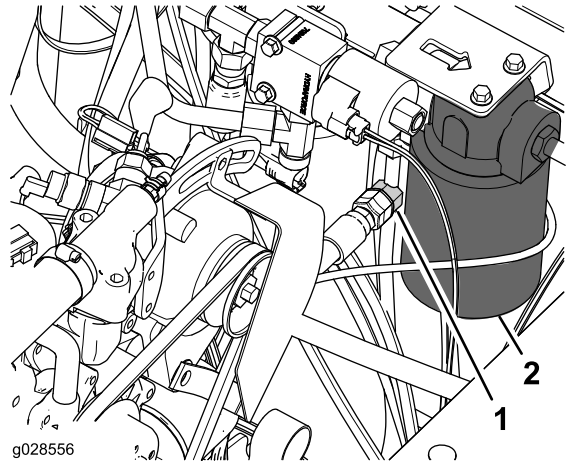

Figure 8
- Remove the cap from the T-fitting in the hydraulic tube next to the transmission-oil filter (Figure 8).
- Connect the free end of the hose (3/8 x 55.6 inches) to the T-fitting (Figure 8) and torque the swivel nut of the hose to 37 to 45 N-m (27 to 33 ft-lb).
- Connect the free end of the hose (3/8 x 85.2 inches) to the T-fitting (Figure 8) and torque the swivel nut of the hose to 37 to 45 N-m (27 to 33 ft-lb).